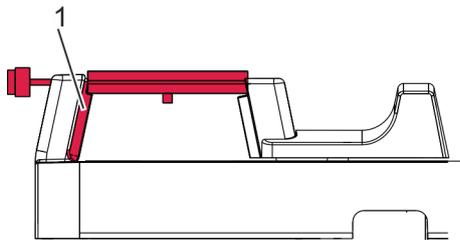

Fig. 14: Clockwork clamped without housing
2. ➔ Place the clockwork on the clamping area so that the plate is positioned above the signal sensor (Fig. 14/1).